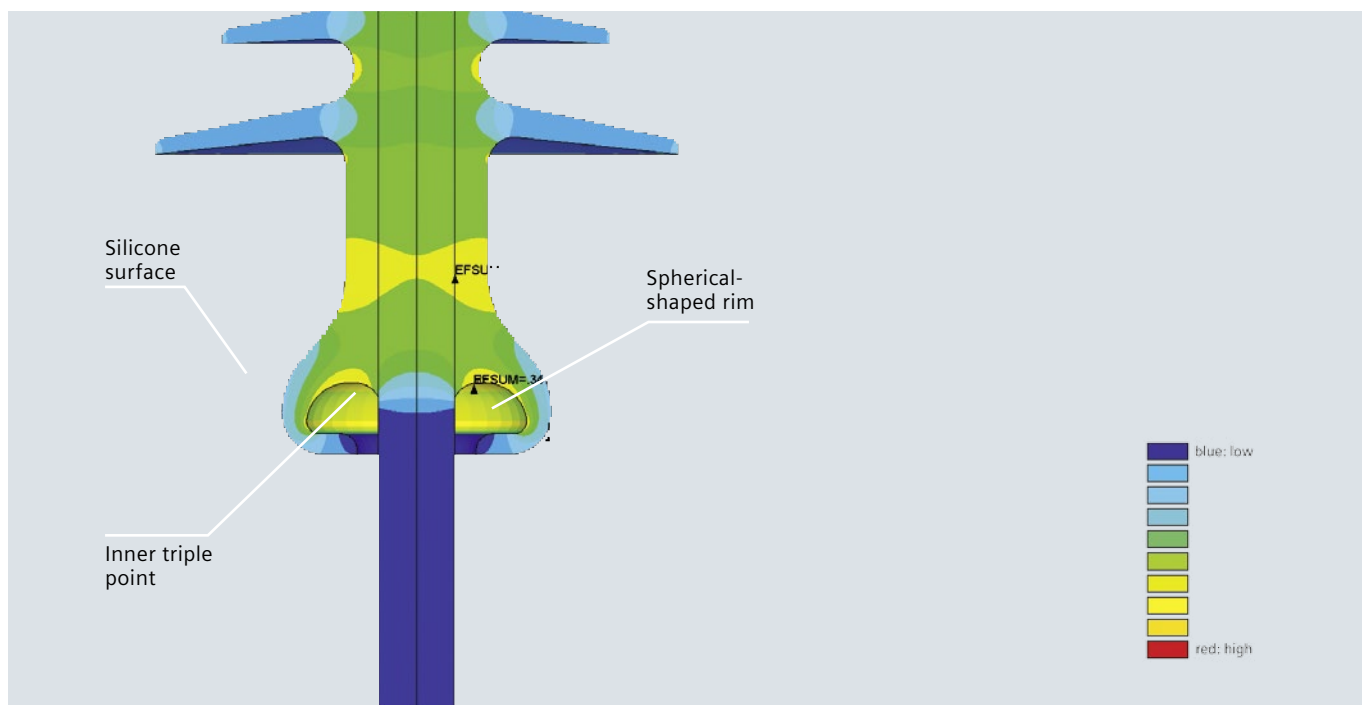

Fig. 4.10-5: E-field distribution (%/mm) in silicone housing and in FRP core rod at 3FL insulator high-voltage end
- The spherical-shaped rim of the end fitting inside the housing homogenizes the E-field distribution on the high-voltage side of the 3FL insulator with an integrated grading ring up to 170 kV (fig. 4.10-5, table 4.10-1).